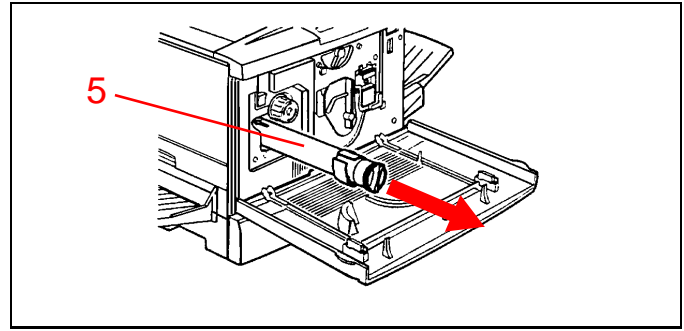

Figure 25
5. See Figure 25. Pull the toner cartridge out of the copier/printer.